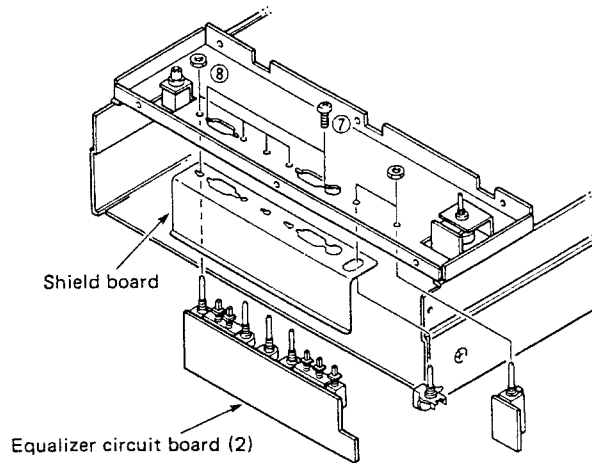

Fig. 3
- c. Remove 2 screws ( ⑦ ) and 6 hexagonal nuts ( ⑧ ) in fig. 3 and then remove the equalizer circuit board ( 2 ).